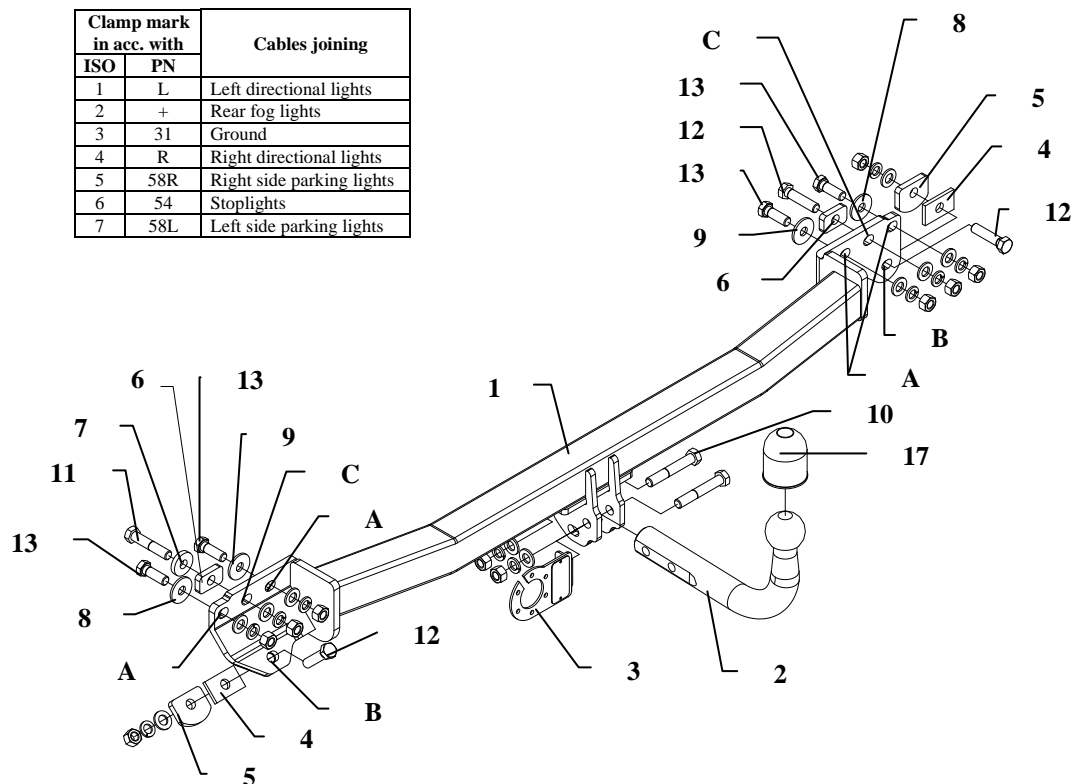

Fig.1
2. Put towing hitch (pos. 1) to rear part of car in that way so holes (pos. A) agree with protruding pins and holes (pos. B) with original tow brackets. In point (pos. B) fix using bolts M12x50mm, use washers (pos. 4 and 5). NOTE! Tight close towing hitch to rear part and tow brackets.
4. Fix towing hitch through drilled holes – see fig. 1 (use distance washer (pos. 6) in point C).
6. Fix tow-ball (pos. 2) and socket plate (pos. 3 ) using bolts M12x75mm (pos. 10) from equipment.